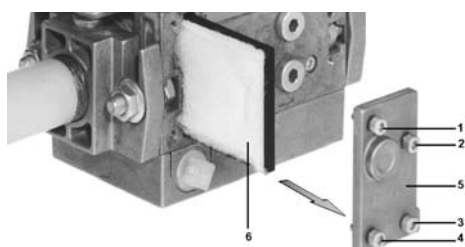

Fig. 22
- 2 Remove screws 1 ÷ 4 using the Allen key n. 3 and remove filter cover 5 in Fig. 22.